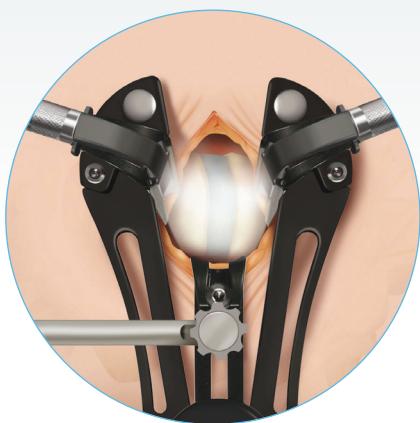

Figure 27a
- Attach the wave guide(s) to the desired cranial/caudal blades (**Figure 27a**).